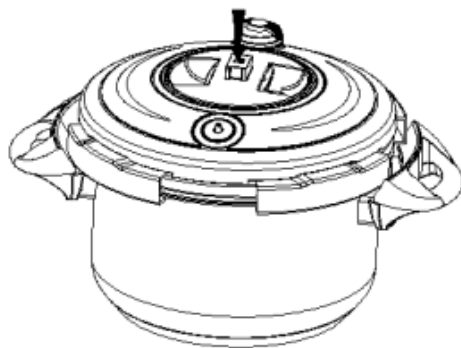
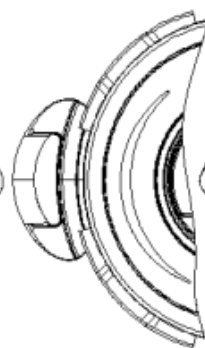

Fig 3
Fig 4
3.Close the lid: First make sure the lid knob is in the state openings (as Fig 3). The cover button is higher than the panel plane, and the four clamps are in the outermost position (as Fig 4). Fasten the lid and pot body, put your hands on the lid button, Press the cover button vertically downwards; lid button and flat panel on the plane, no higher than the button panel, means closed well (as Fig 5). When necessary, especially when the new pan is opened and closed, the other parts of the pan cover panel can be pressed down by a little hand, so that the lid is convenient to be covered.